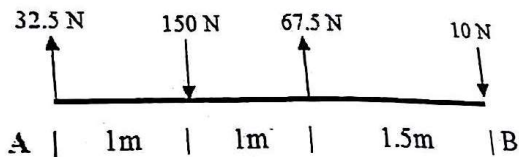

Figure 2.1
1. A system of parallel forces is acting on a rigid bar as shown in Figure 2.1. Reduce this system into